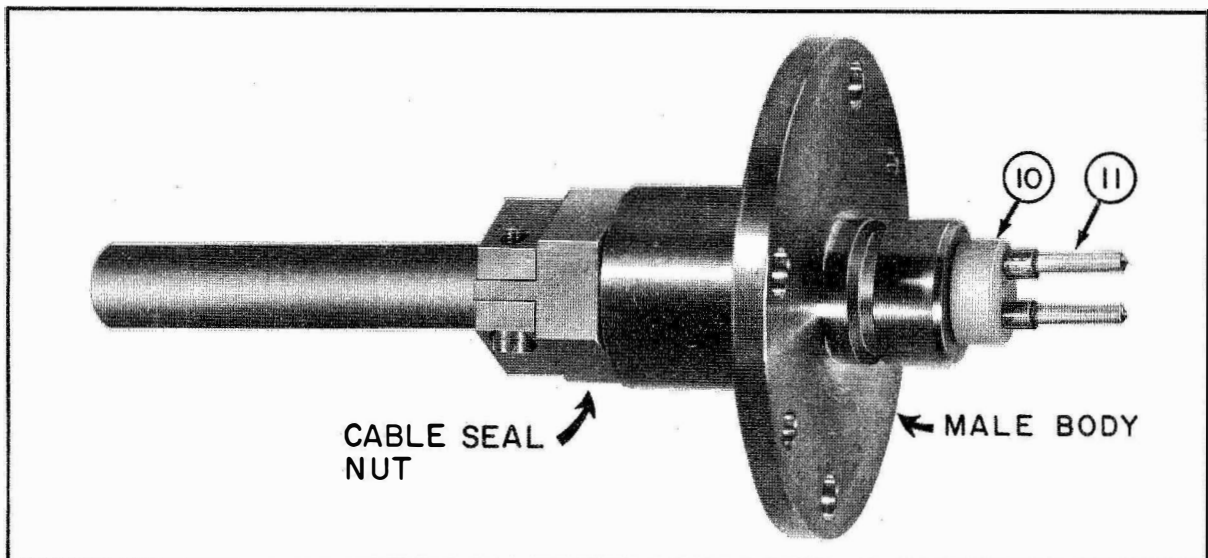

Figure 5-11d. Male Contact Pins Installed
Step 5. - Slide insulating spreader, piece 10, over the bare inner conductors, one conductor through each hole. Clean and tin approximately 0.187 inch of each conductor. Place male contact, piece 11, on the conductors so that there is a space of approximately 0.031 inch between the contacts and the insulation spreader. Solder the contact pins to the conductors, filling each hole in the contact pins completely (see figure 5-11d). Exercise particular care during the soldering operation to avoid dielectric flow from excessive heat and accumulation of flux or foreign matter.